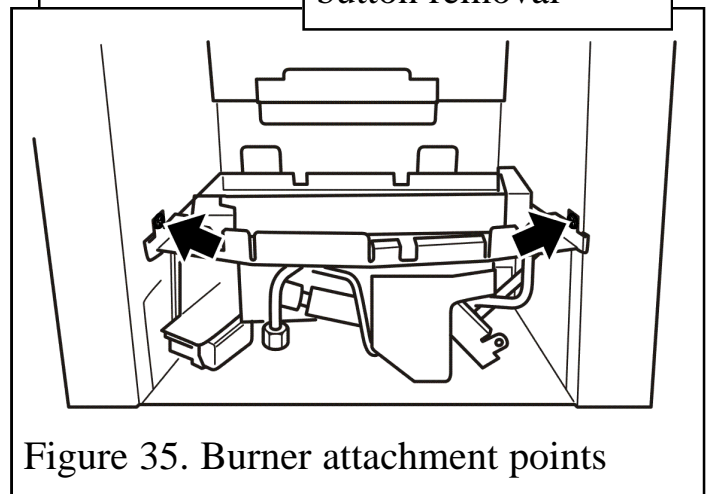

Figure 35. Burner attachment points
4. Detach the burner unit from the convection box by removing two screws (See figure 35).